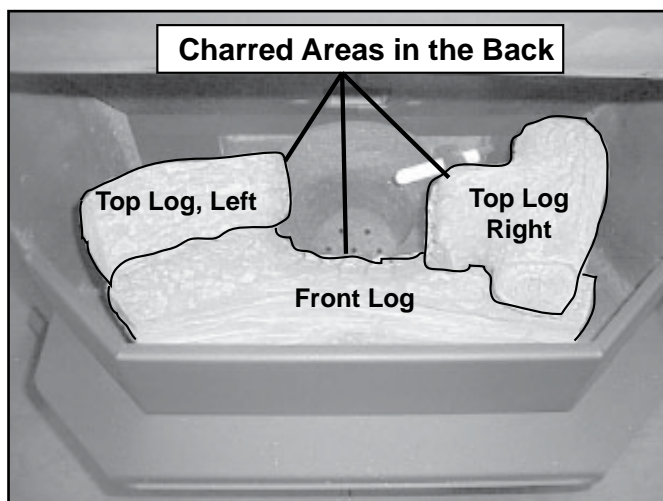

Figure 25.2
2. Set the left and right logs onto the front log, placing the holes in the base of the left and right logs over the locating pins in the front log. See **Figure 25.2**. Ensure that the charred ends are facing the firepot.